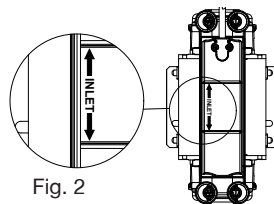

Fig. 2
- 2.21 **Direction of flow:** Ensure the water inlet supply is connected to the correct pump ports indicated by INLET arrow/s detailed on the pump rating label Fig. 2.